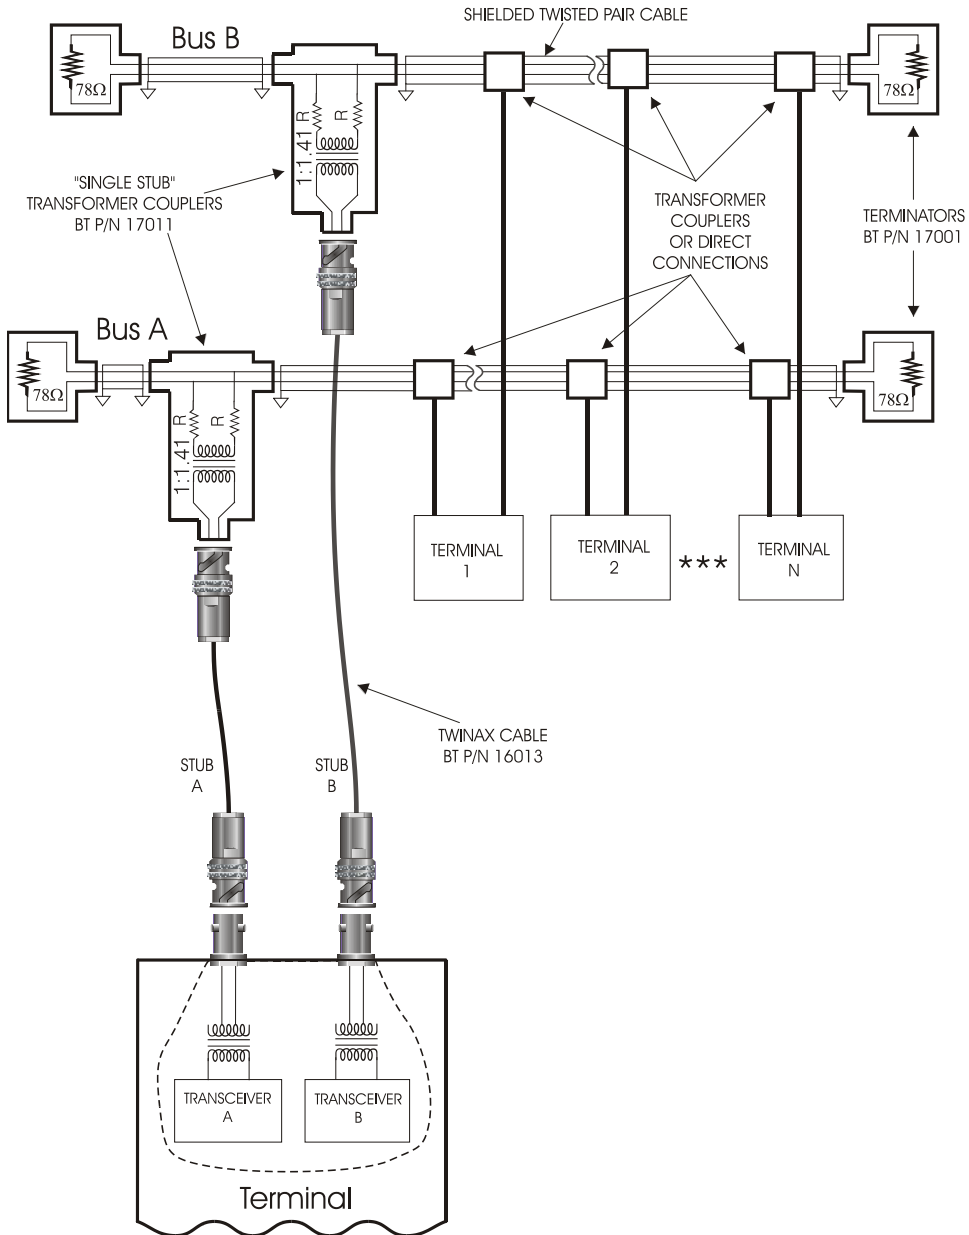
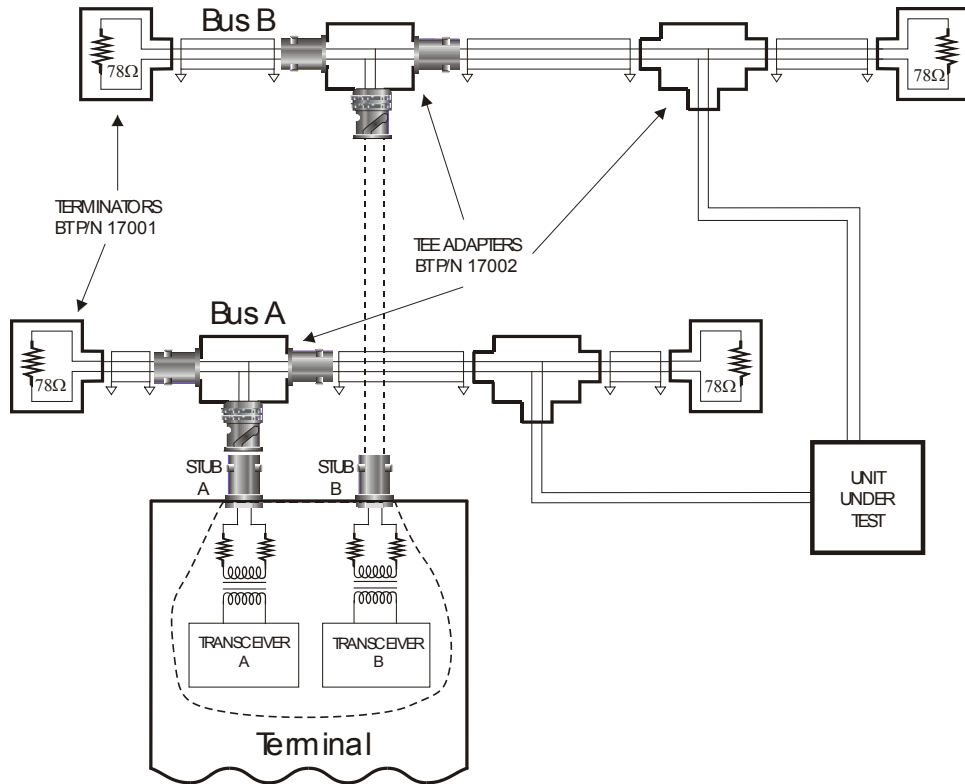

Figure A.1—Transformer coupling to a dual-redundant databus
Figure A.2—Direct connection to a dual-redundant databus
The main databus consists of a pair of twisted, shielded wires with a characteristic impedance in the range of 70 to 85 ohms. The databus must be terminated at both ends with a resistor to provide proper loading and to minimize signal reflection and degradation on the bus. The resistor value should be close to the characteristic impedance of the databus. The resulting total load on the databus is the two terminating resistors in parallel (about 39 ohms). Even with a very short databus, the load from the terminating resistors is still required. Notice how the resistors terminate the databuses in Figure A.1 and Figure A.2. Note that some Ballard products have on-board termination resistors that can be switched in manually or under software control.
- The transformer-coupled terminal has a lower turns ratio and no isolation resistors, but this is made up for in the external coupler, which has a step-up transformer and isolation resistors (see Figure A.1).
- The direct-coupled terminal has a higher turns ratio and has isolation resistors that are connected directly to the main databus. Direct coupled stubs should be kept as short as possible (see Figure A.2).